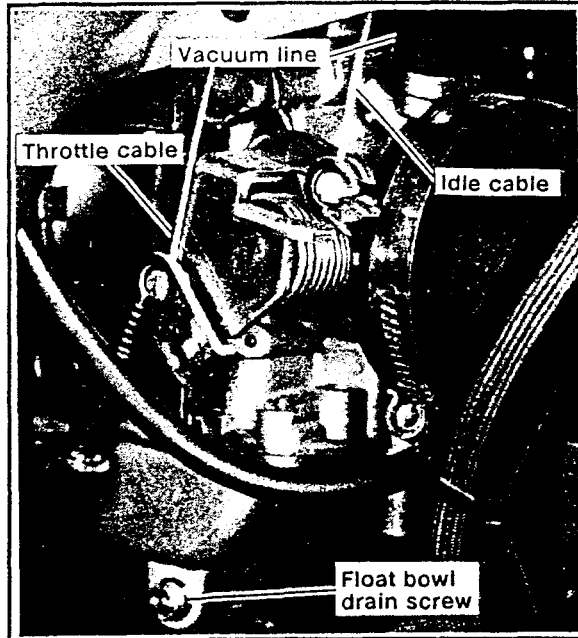

Figure 3-11. Carburetor Hoses and Cable Connections
3. See Figure 3-11. Disconnect the fuel line (1), throttle cables (2), enricher valve and vacuum hose from the carburetor.